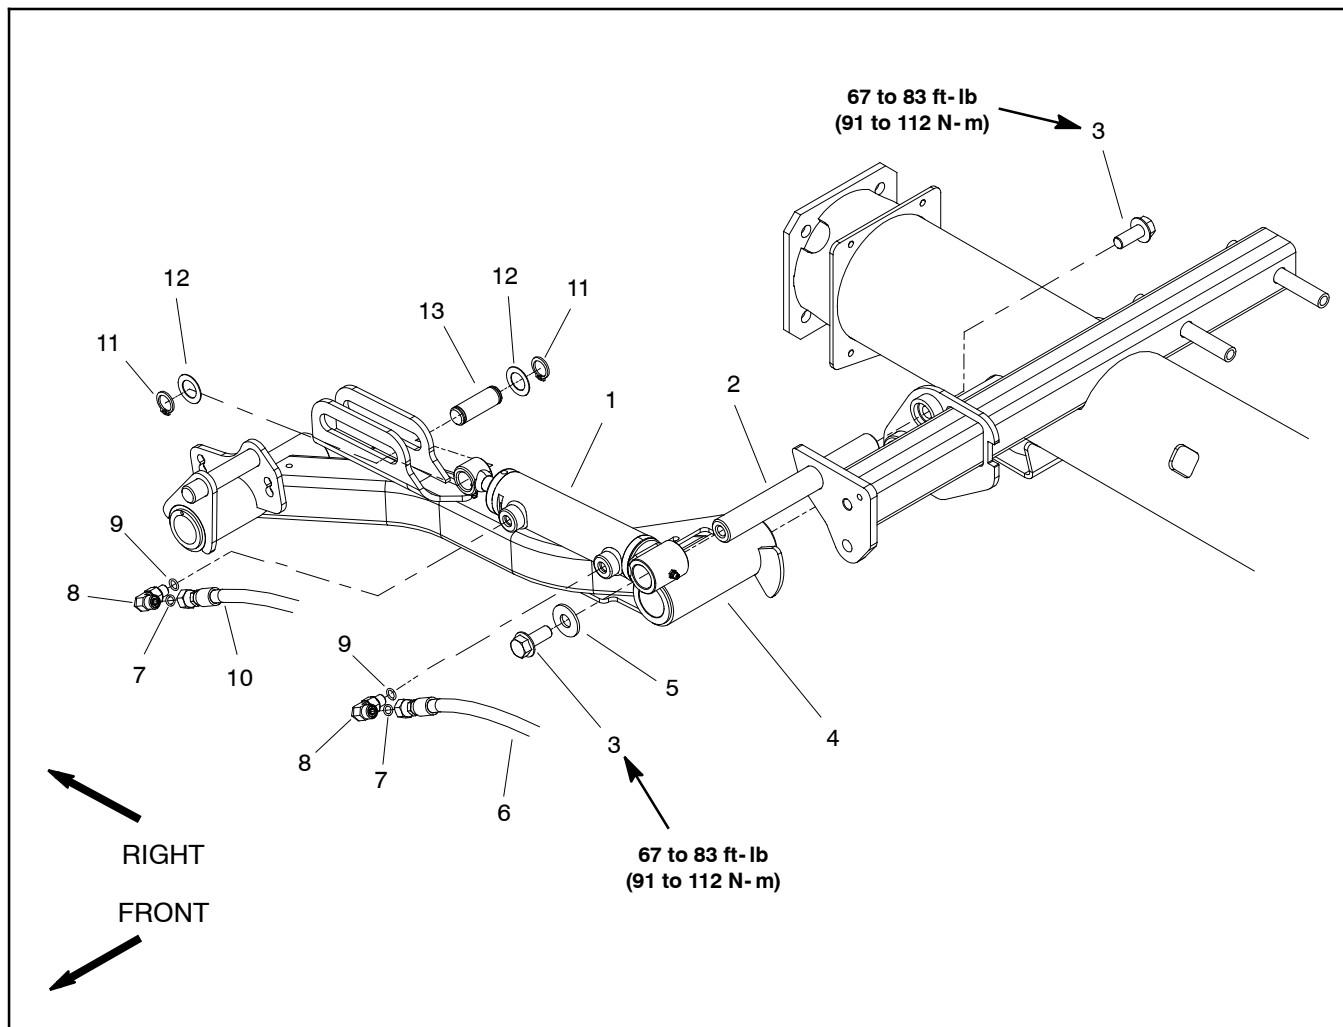

Figure 94
**NOTE:** The procedure for lift cylinder removal and installation is the same for all Reelmaster 5010 lift cylinders. Figure 94 shows the right, front lift cylinder.
## Removal (Fig. 94)
## Installation (Fig. 94)